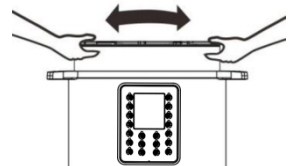

Figure 14
Ensure that the inner pot where the heating plate (14) is located is clean and dry before inserting the inner pot (6) into the pressure cooker and level the pot to ensure optimum contact between the inner pot and the heating plate (14) (Figure 14)
immediately after cooking if you are using functions such as porridge or soup. It is IMPORTANT that the safety valve (5) drops before attempting to open the lid (Figure 14).